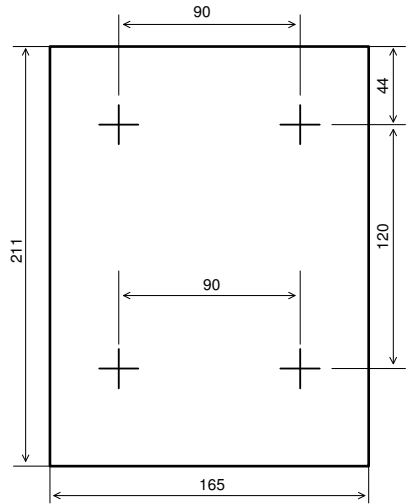

Figure 2. Overall and Mounting Dimensions
2.2.4 Fasten the RIP at the selected place. The overall and mounting dimensions are shown in Figure 2.